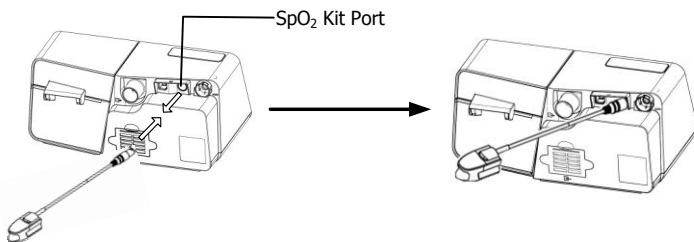

Fig. 14-2
- (1) Insert the SpO₂ Kit connector into the **SpO₂ Kit Port** of the device, as shown in Fig. 14-2.